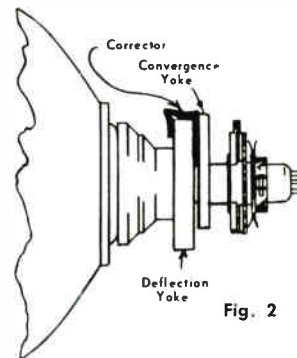
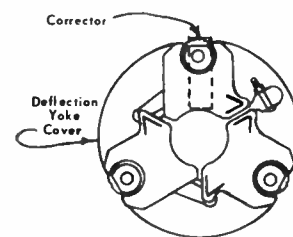

Fig. 2
Fig. 3
- a) Slide the corrector down vertically over the rear face of the deflection yoke as shown in Fig. 2. This is to be positioned directly above the blue gun (Fig. 3) and the top clip is to be pressed down firmly on the yoke body for the entire length of the clip.